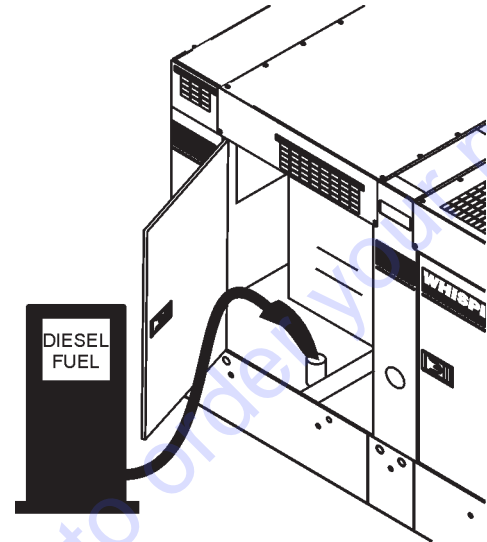

Figure 31. Fueling the Generator
2. Open cabinet doors on the generator. Locate and remove the fuel tank cap and fill tank (Figure 31).